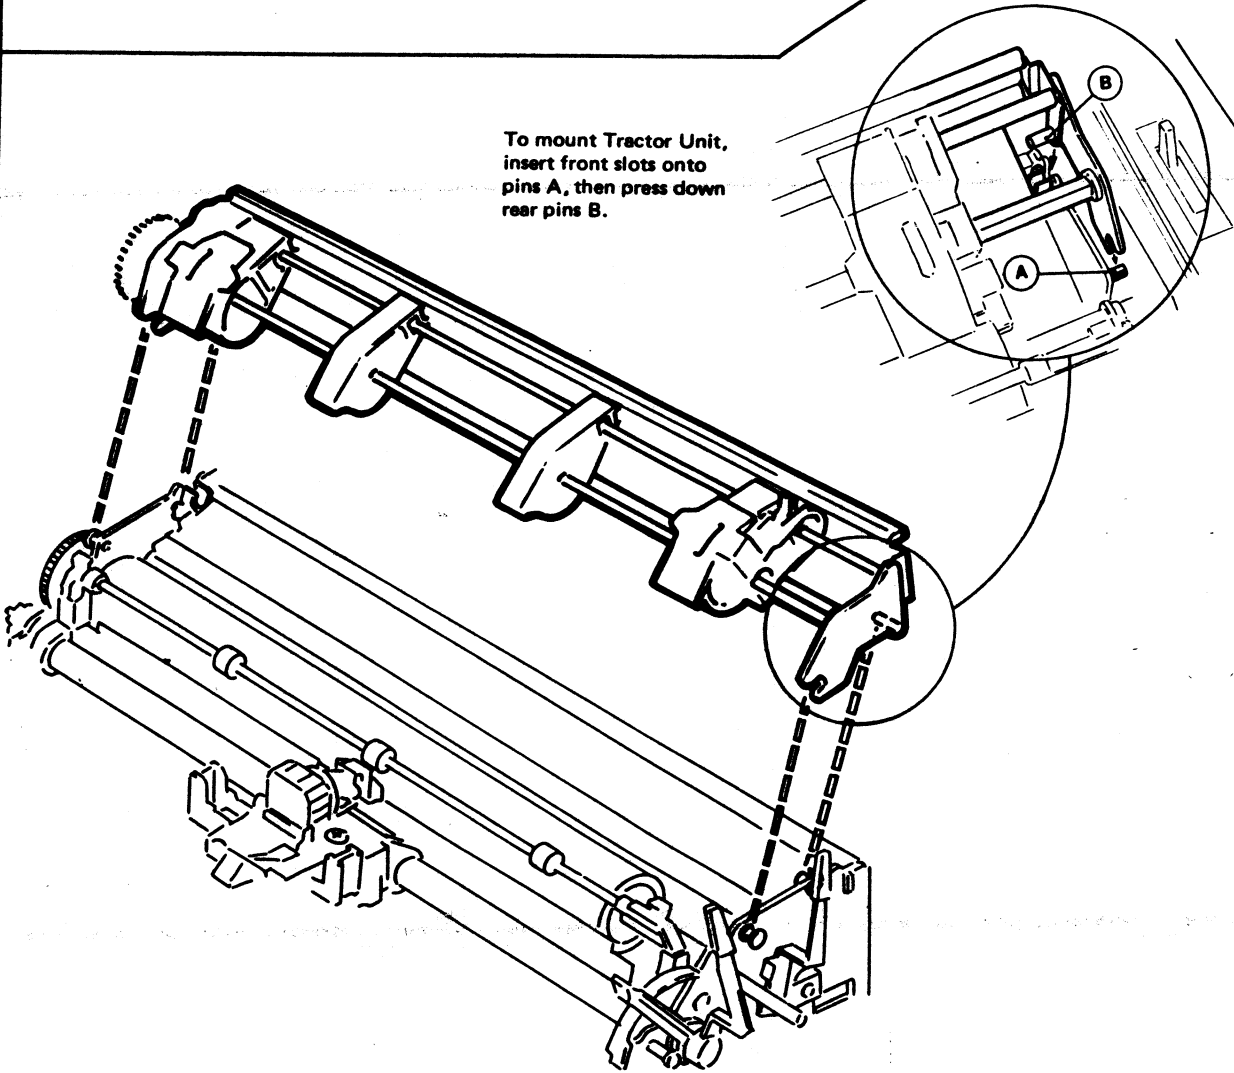

Fig. 6 Tractor Unit Removal and Replacement
USING CUT SHEET PAPER (see figs. 6 & 7)
2. Remove the Tractor Unit as shown in fig. 6 (when fan-fold paper is to be used again, the Tractor unit must be replaced).